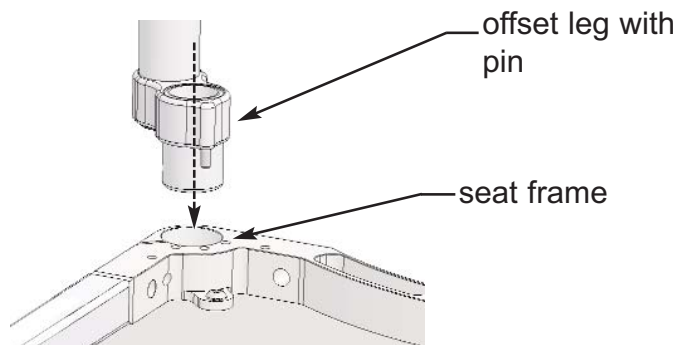

Figure 3
**D** Position the roll-in legs so that the offset points out at a 45-degree angle. Note the small pin that mates with holes in the frame. Make sure that the legs slide "home" into the socket of the seat frame. Use the included  $\frac{1}{4}$ " Allen wrench to securely tighten the bolts located at the corners of the frame (Refer to Figure 3).